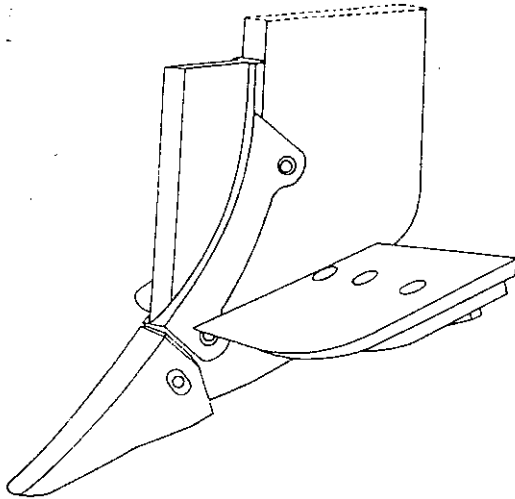

Figure 1 Winged tine
3. Unfortunately heavy machines used on reclamation sites compact the spoil by closing the coarse pores necessary for drainage and aeration. Planting is then physically difficult and the conditions are unsuitable for healthy root growth. The compaction must be removed by ripping down-slope using a Caterpillar D8 or equivalent 300+ hp tractor carrying 3 heavy tines in a parallelogram mounting. The outer tines, at least, should be winged (Fig.1) and follow in the track lines. Tining must- and often can- only be done during dry weather in the May to September restoration season.
Figure 3. Landform for restoration over impervious materials. Ridges ripped as in Figure 1, but tool points at 0.5m on the ridges, 0.3m in the furrows. Drain put in by side-acting digger.